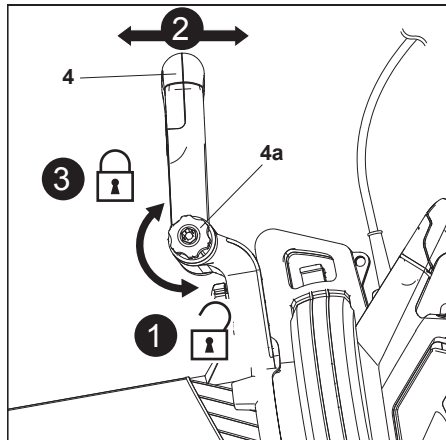

Fig. 11
1. Turn the locking knob (4a) anticlockwise to loosen the front handle (4), then move it forward or backward to adjust the angle (Fig. 11, steps 1, 2).
2. Turn the locking knob (4a) clockwise to tighten the front handle (4) (Fig. 11, step 3). Ensure the tooth system locks in place.